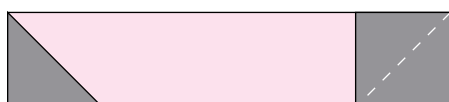
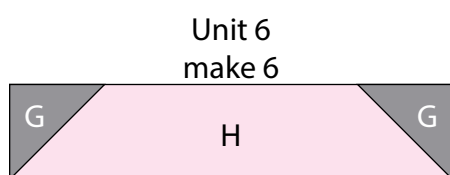

Fig. 16
Fig. 17
11. Place another 3 ½" Fabric G square on the right side of the 3 ½" x 14 ½" Fabric H strip, right sides together (Fig. 16). Sew across the diagonal of the square from the upper right corner to the lower left corner (Fig. 16). Flip open the triangle formed and press. Trim away the excess fabric from behind the triangle, leaving a ¼" seam allowance to make (1) Unit 6 strip (Fig. 17).
12. Repeat Steps 10-11 to make (6) Unit 6 strips total.